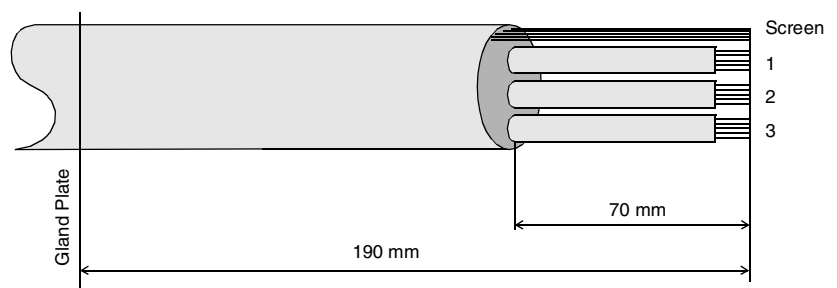

Figure 4-7 Resistor cable stripping diagram (braking chopper end). All lengths are approximate and may vary according to the cable lugs used.
- Cut and strip the cable as shown in Figure 4-7 above.